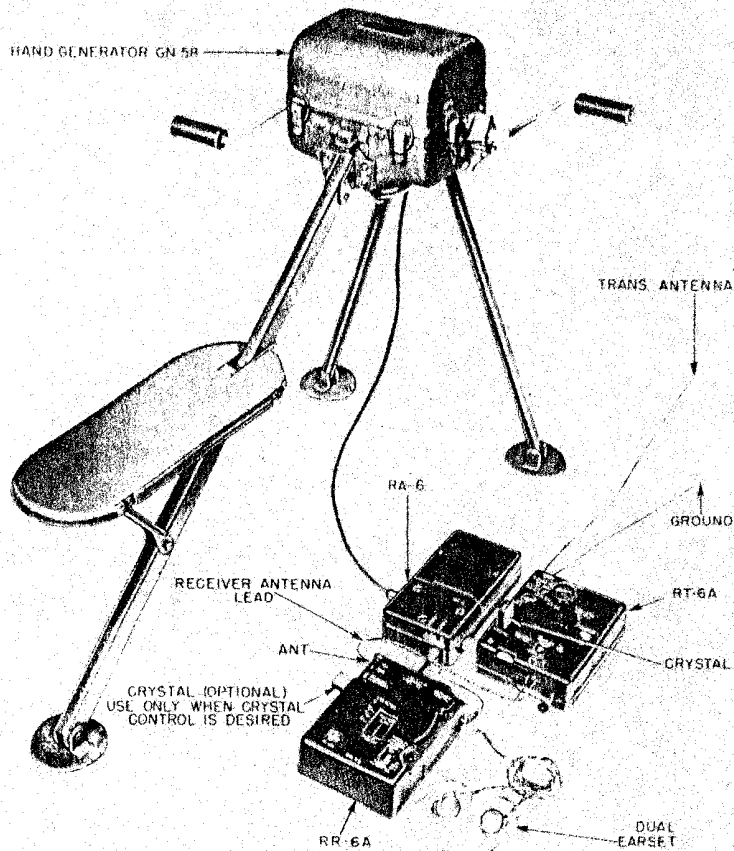

Figure 7. Radio Station RS 6A, hand generator operation hook-up.
b. Connect the equipment as shown in Figure 7 (receiver crystal shown is optional). The transmitter and receiver are now ready for operation.